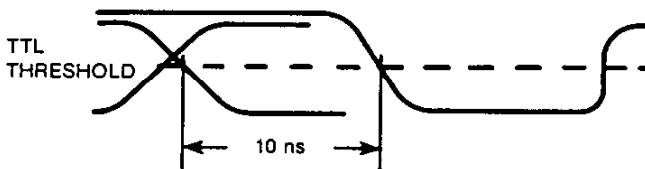

Figure 6.7
- a. Adjust D1 (R13) for 10 ns between the last address edge and falling edge of the  $\overline{WE}$  (see Figure 6.7).